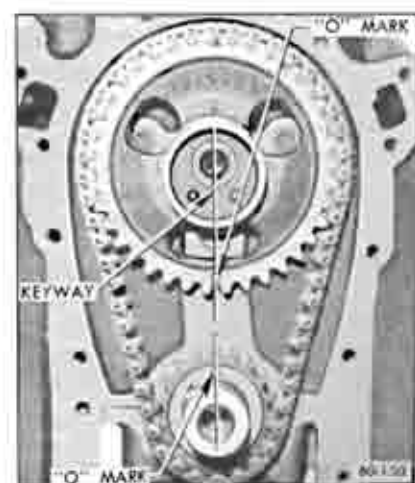

Figure 60-150—Timing Chain and Sprockets Properly Installed
until the camshaft sprocket keyway is straight down toward the crankshaft and the "0" timing marks on both sprockets are toward each other and in line with shaft centers. See Figure 60-150.
1. To install timing chain, turn crankshaft until Nos. 1 and 4 pistons are on top dead center. Turn camshaft so that the sprocket key points straight down toward crankshaft. See Figure 60-150.
2. Place timing chain over the camshaft and crankshaft sprockets so that the "0" marks stamped on front faces of sprockets are nearest each other and aligned between the sprocket hubs. Install sprockets with chain on the two shafts. See Figure 60-150.